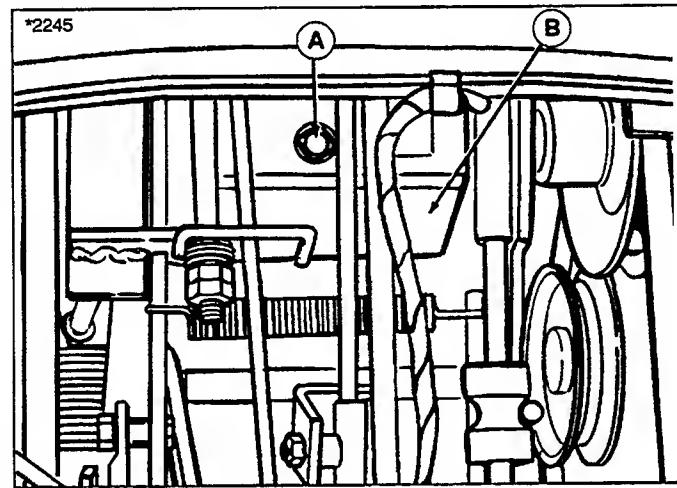

**Figure 11. Idler Pulley Pivot**
3. See figure 11. Remove the taptite screws to remove the R.H. cover. Both covers can be removed to check/clean mower deck.